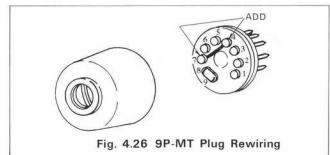

Fig. 4.26 9P-MT Plug Rewiring
7. When the modified TS-820S is to be operated independently, the 9P-MT plug must be installed, with pins "4" to "7" jumpered (Fig. 4-26).